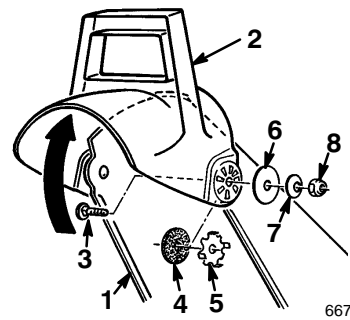

Figure 13
2. Secure the left side of the deflector to the discharge chute using parts as illustrated in Figure 13.